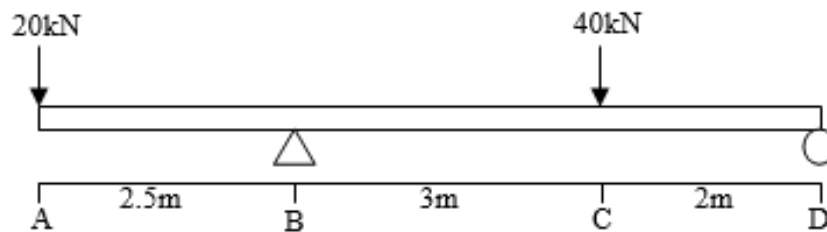

Figure 4(b)
- CLO2 (b) An overhang beam 7.5 m in length is subjected to loads as shown in Figure 4(b). Given the reaction  $R_B = 46$  kN and  $R_D = 14$  kN, sketch the Shear Force Diagram (SFD) and Bending Moment Diagram (BMD) of the beam.